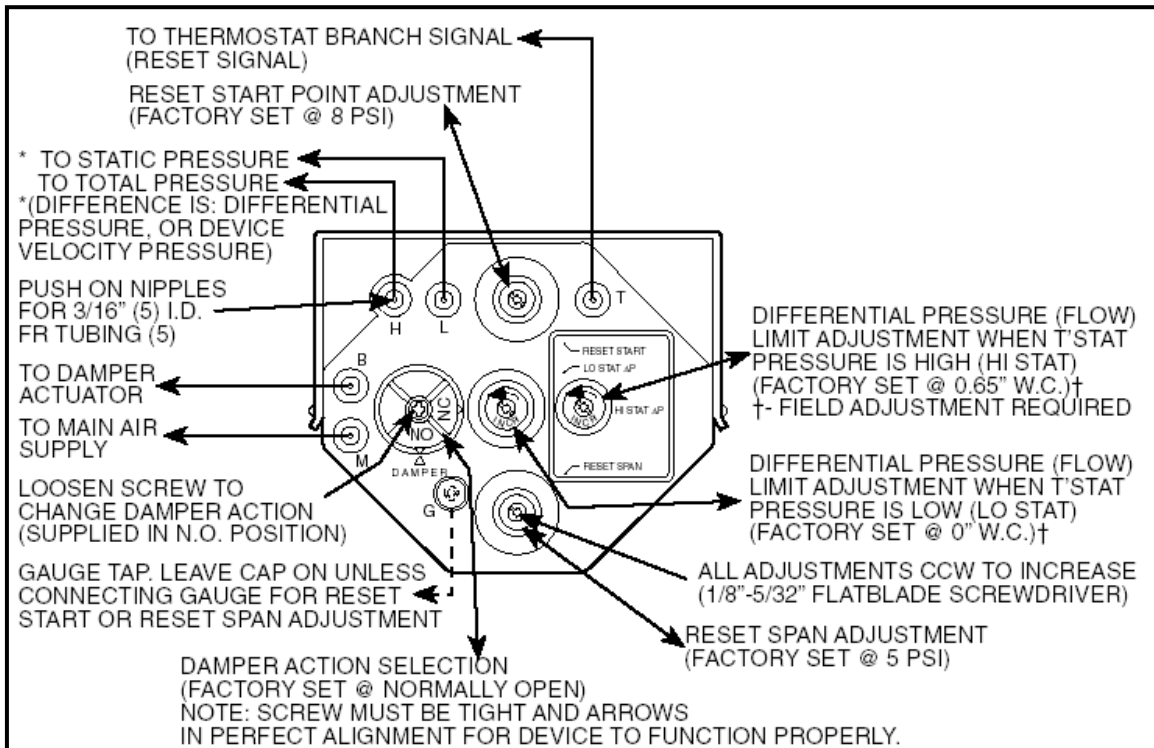

Figure 10 CSC 3011 Controller
1. Damper action is factory set at N.O. (normally open), or N.C. (normally closed). To reselect loosen damper selection switch screw and align pointer with damper pointer and tighten screw. The spring range of the actuator is not critical since the controller will output the necessary pressure to the actuator to position the damper according to set point. (See Fig. 10.)
2. Pipe the controller: Connect port "B" to the damper actuator. Connect port "M" to the clean, dry main air supply. Connect port "T" to the thermostat output. Connect port "H" to the total pressure tap on the airflow sensor. Connect port "L" to the static pressure tap on the airflow sensor. The controller can be set up for cooling or heating applications using either a Direct Acting (DA) or Reverse Acting (RA) thermostat signal. The two flow adjustments are labeled "LO STAT ΔP " and "HI STAT ΔP ".